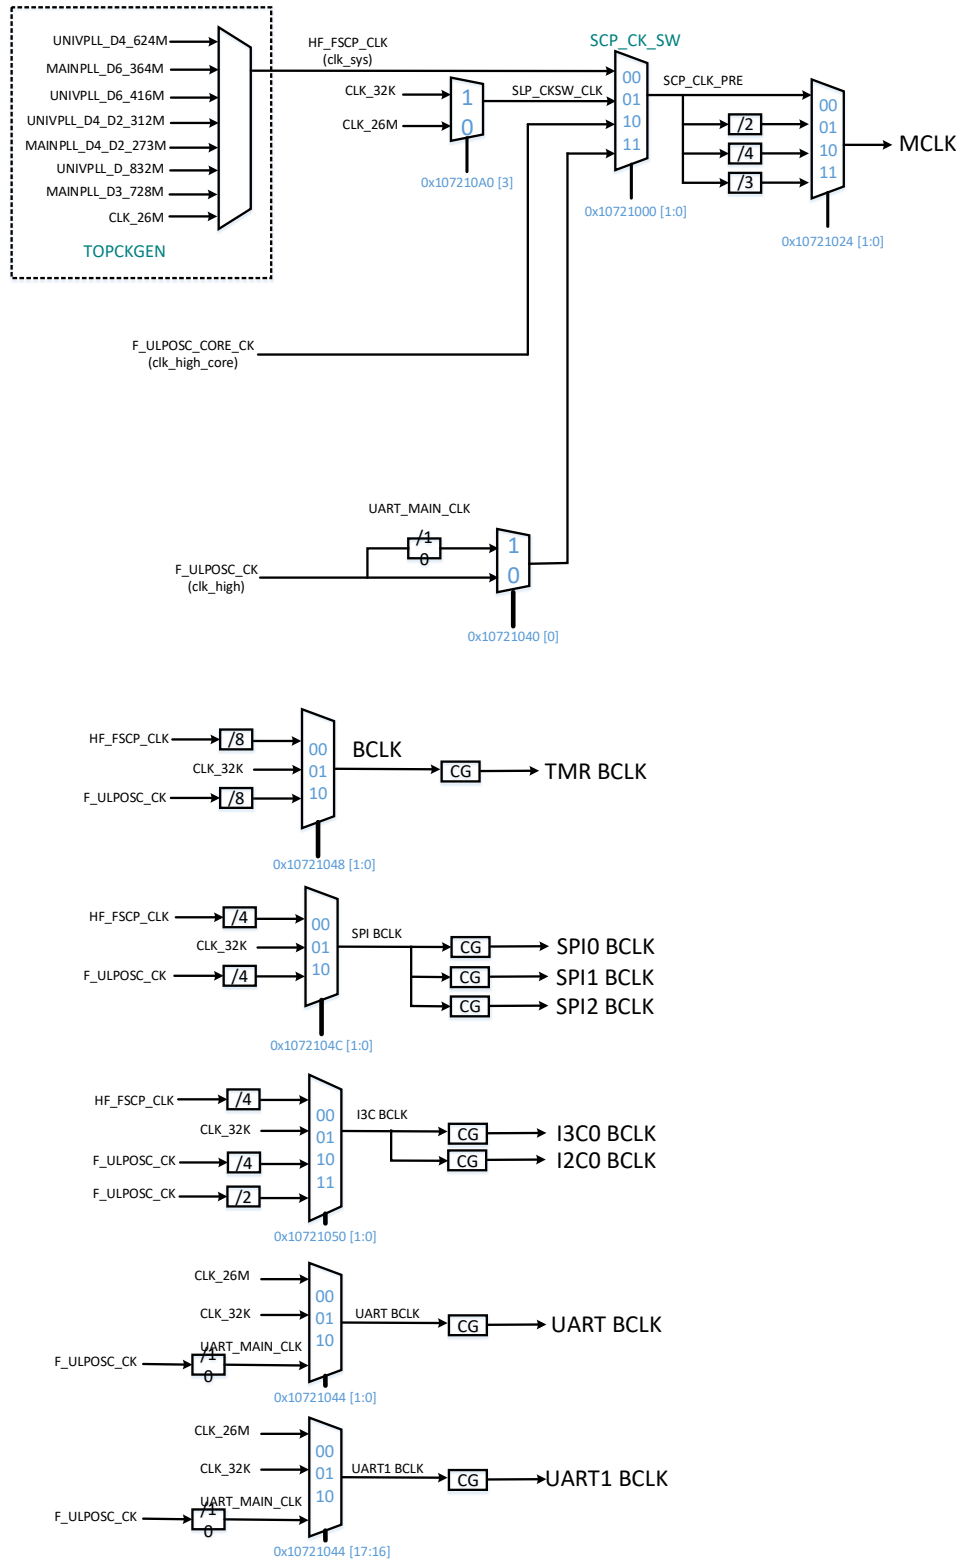

Figure 3-9 SCP Clock Structure
The clock source of the SCP subsystem is provided by HF_FSCP_CK, CLK_32K, CLK_26M, or CLK_ULPOSC (the four clocks are configured by the CLK_SW_SEL control register CR setting. Bus, RV55, and IP bus interface clock are controlled by the divider selection (MUX) control register and clock gating (CG) control register The SCP clock structure is as Figure 3-9 shows.
In order to comply with the low speed IO protocol, the peripherals need to operate at the special clock period, I2C bclk, I3C bclk, SPI bclk, or UART bclk. The clock divider selection control register and the clock gating (CG) control register of low speed peripherals and IO are shown in Figure 3-9.